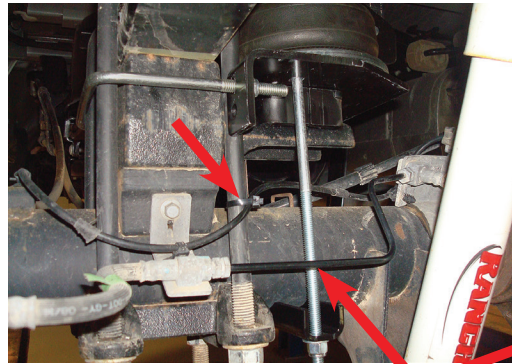
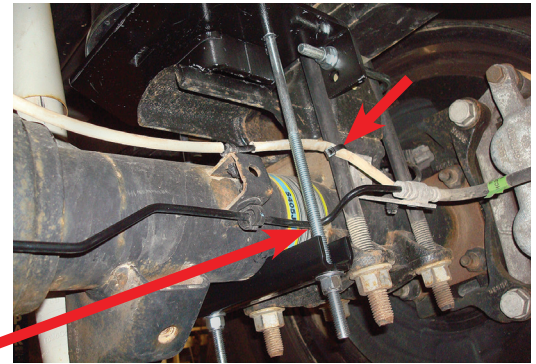

fig. D.19
fig. D.20
On the driver's side (left), the long carriage bolt in the lower bracket main plate should be located between the hard brake line and axle (Fig. D.19). On the passenger's side (right), the carriage bolt should be located on the backside of the brake line (Fig. D.20).
6. Figures D.19 & D.20 show the lower bracket installed.
IT WILL BE NECESSARY TO PUSH THE HARD BRAKE LINE AWAY FROM THE LOWER BRACKET CARRIAGE BOLT IF THE LINE IS RESTING ON IT (FIGS D.19 & D.20).